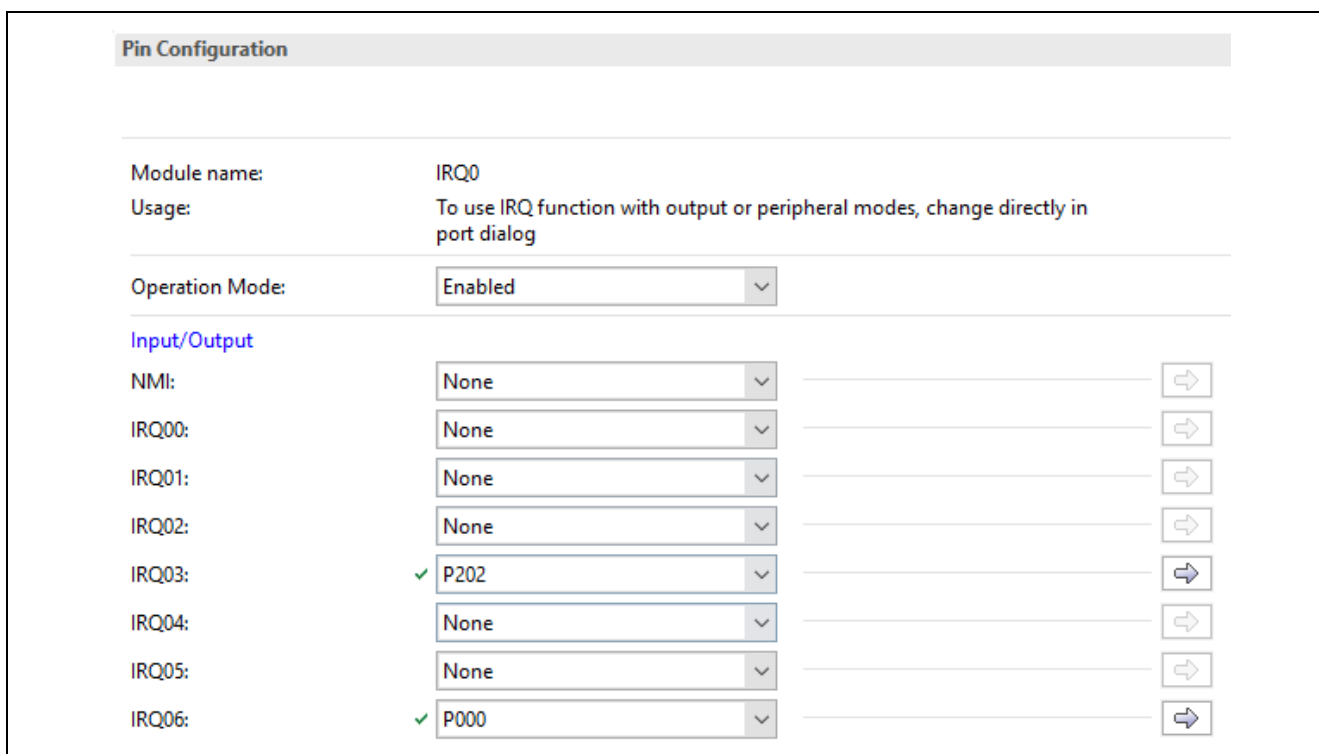
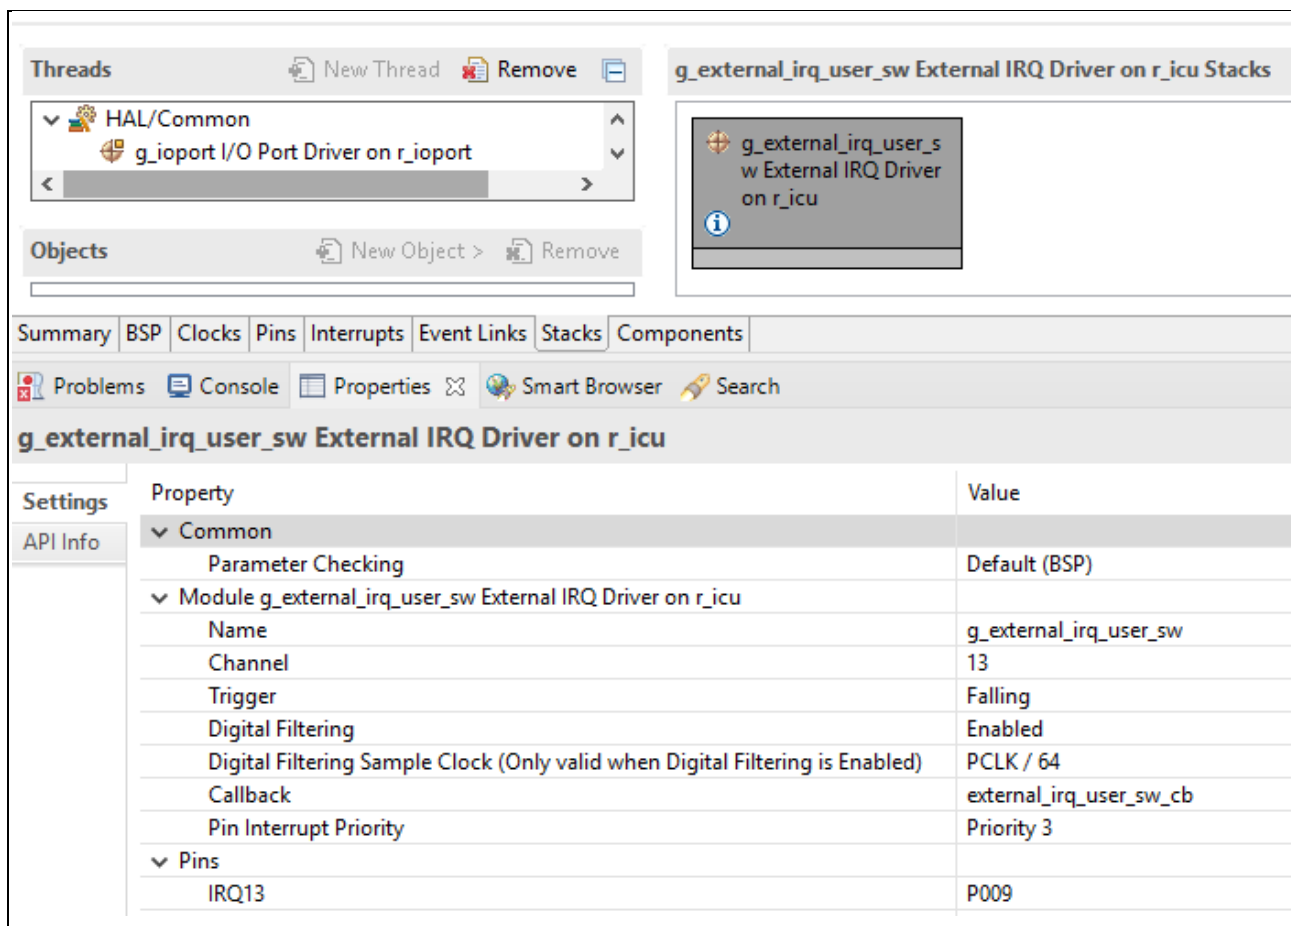

Figure 28. Enable P202, P000 as IRQ03, IRQ06 inputs Respectively using Pin Configurator in Renesas FSP
Figure 29. Configure IRQ13 using Renesas FSP Configurator
- Figure 28 and Figure 29 show examples of enabling and configuring IRQ pins using Renesas FSP.